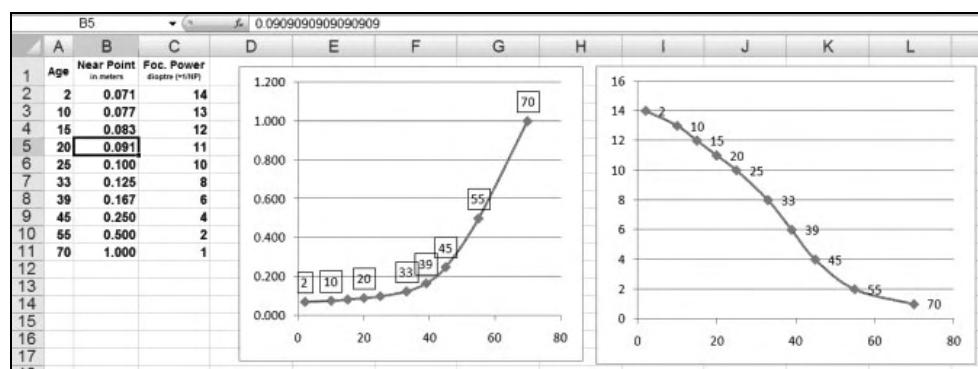

Figure: 3.10
Figure 3.10 measures how a person's eyesight changes with age. The left graph shows how the near point (NP) changes with age. The right graph shows how the focal power ($=1/NP$) changes with age. You can see that both graphs require the XY type because the values in column A have unequal intervals. Here's how you create the left graph: